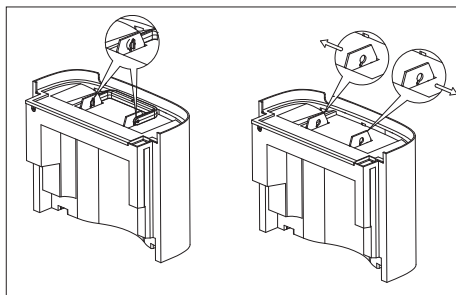

Fig. 5 – Removing lid
- ▶ Reposition the carry handle so that you can remove it from its fixing (see Fig. 5).